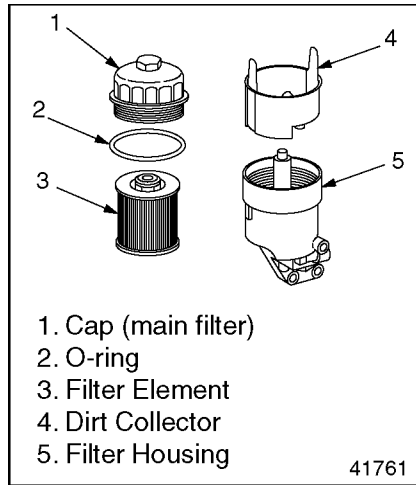

Figure 42 Main Fuel Filter
3. Using a 36-mm socket wrench insert, unscrew the cap on the fuel filter and remove it, along with the filter element. Pull both the cap and the filter element a short distance out of the filter housing. See Figure 42. Allow the fuel to drain off the filter into the housing.